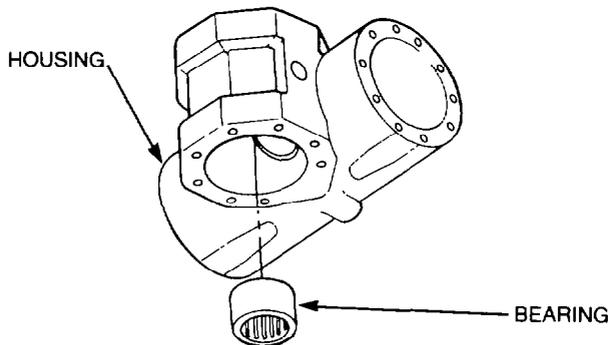

Figure 304 — Housing Bearing — Removal
- j. Using a suitable press and mandrel, press the needle roller bearing from the housing (see Fig. 304).